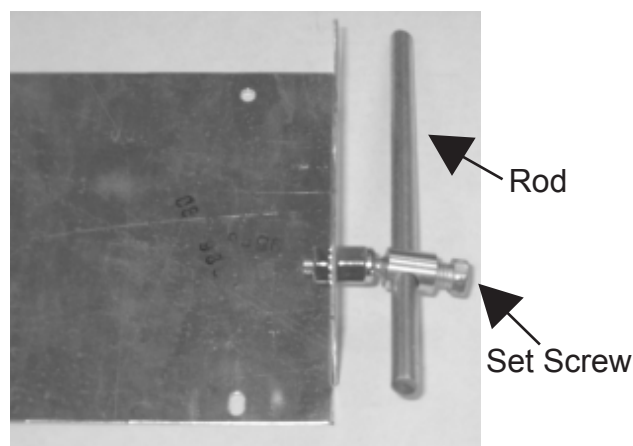

Figure 8 - Damper Adjustment
1. Make sure the two sensor wires are connected to the TEMP SENSOR terminals on the board. See Figure 8.